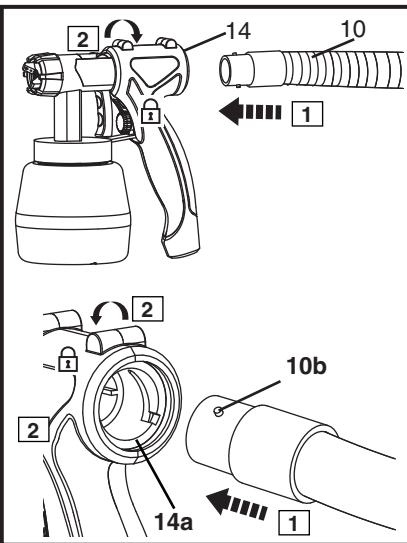

Fig. 3
3. Attach the air hose (10) to the air inlet nozzle (14) of the spray gun by securing the pins (10b) into the slots (14a) (Fig. 3).